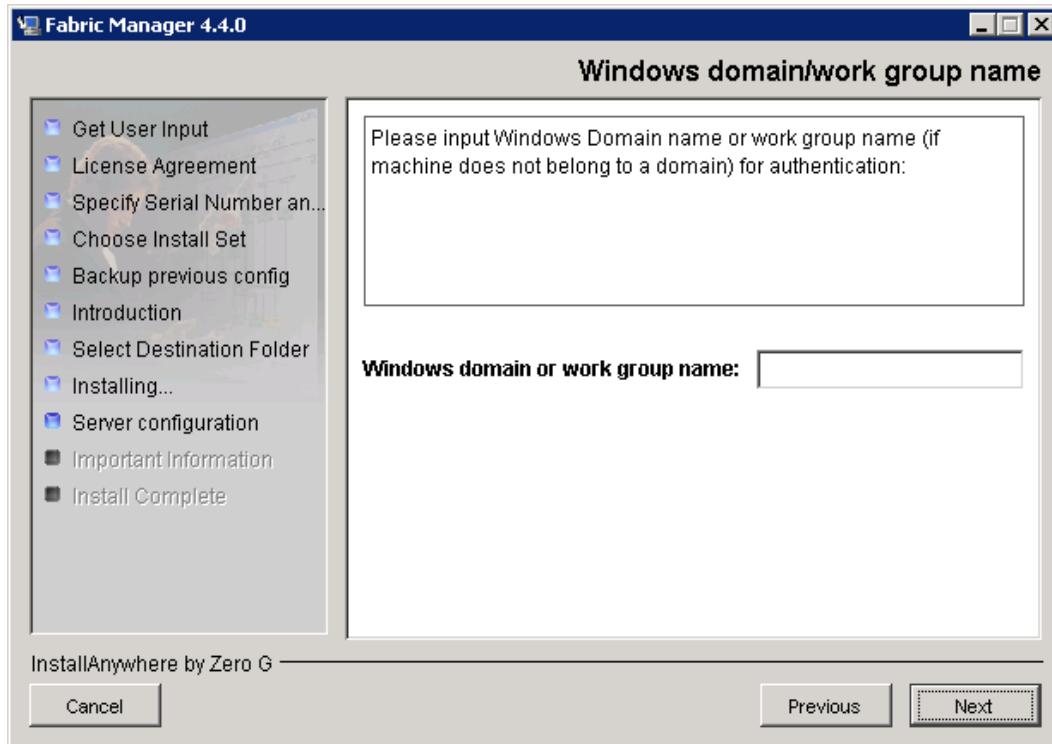
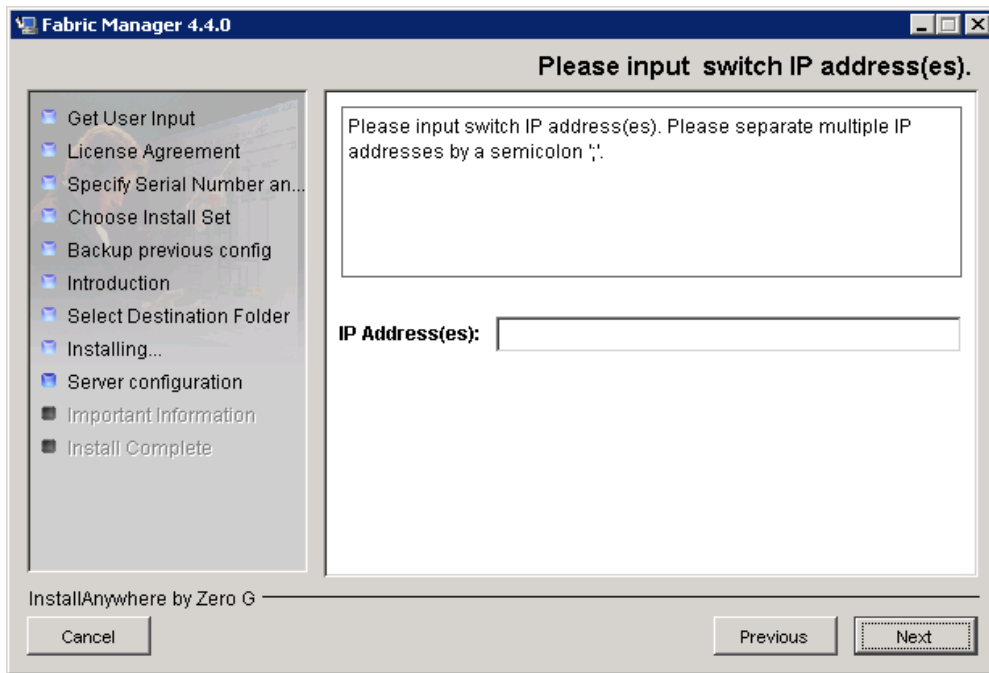

Figure 13 Enter windows domain/work group name
Figure 14 Enter IP addresses for switch-based authentication
16. Select **Windows domain or work group** and then click **Next** (see Figure 13) or select **Switch based authentication** and then click **Next** (see Figure 14 on page 34) and skip to step 18.